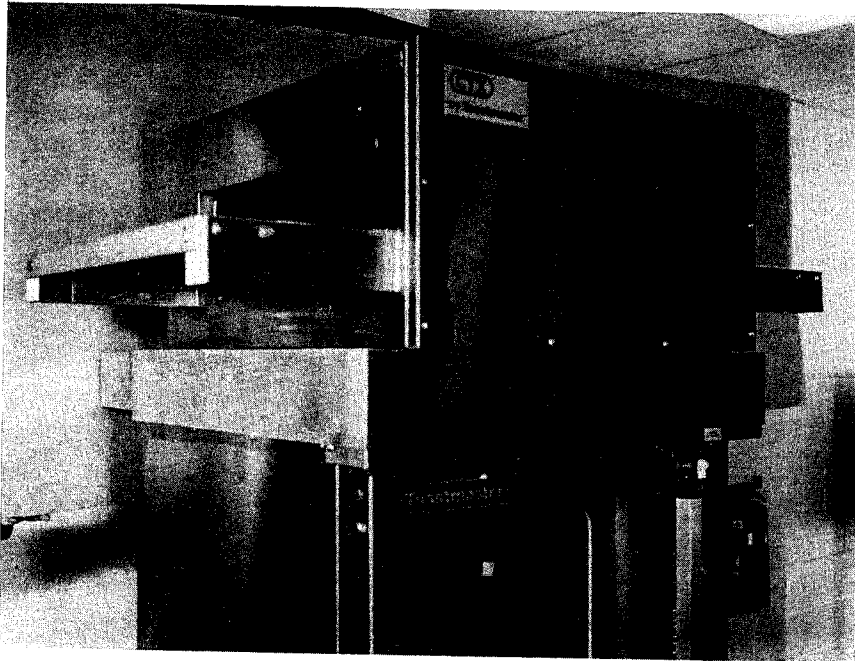

Figure 2-6
1. Lay the G-26 on its front side. Then using the four bolts supplied in the kit, secure bracket to bottom of oven using the threaded holes normally used for legs. Opening in sidewall must be at rear of oven as shown in Figure 2-6.